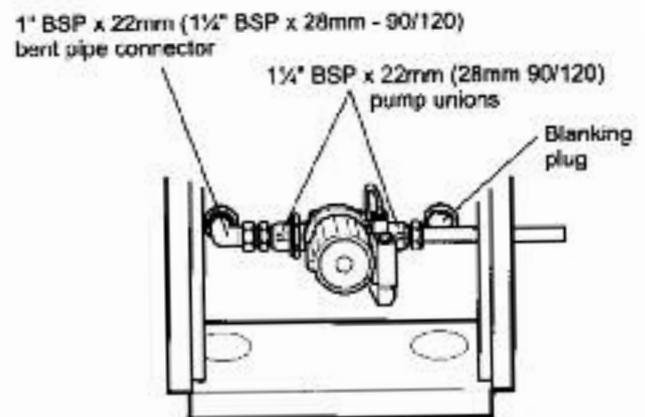

Fig. 15a - rear of boiler
- Connect the pump to one of the bottom tappings (as required) on the back of the boiler using the two pump unions and the other bent pipe connector supplied. Seal the other return tapping with the blanking plug supplied with the boiler. See Fig. 15a.
See Figs. 15a, 15b and 15c
Seal any unused tappings with the 1¹/₄" BSP plugs supplied (see Fig. 15a).